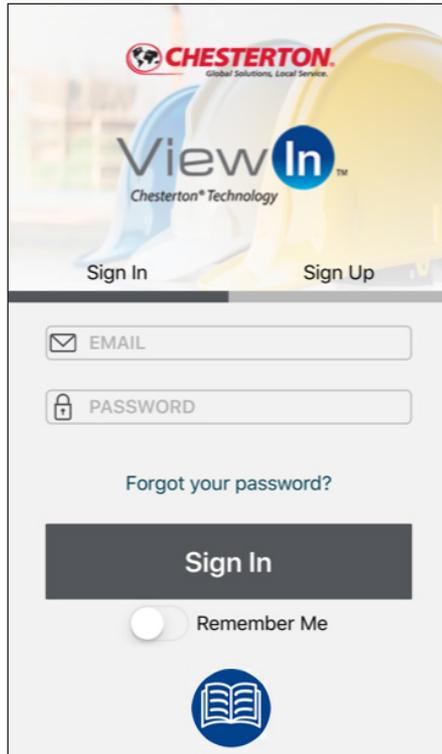

Figure 12
1. Log in to the ViewIn App (Figure 12).